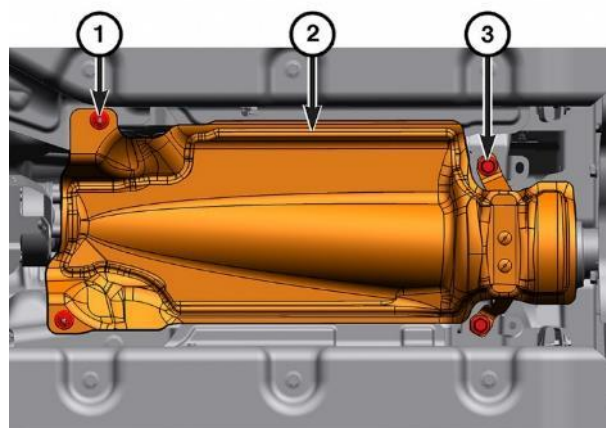

Figure 37 – Center Heat Shield
- 17. Remove the center heat shield nuts, center heat shield to center support bearing bolts, and the center heat shield (Figure 37).